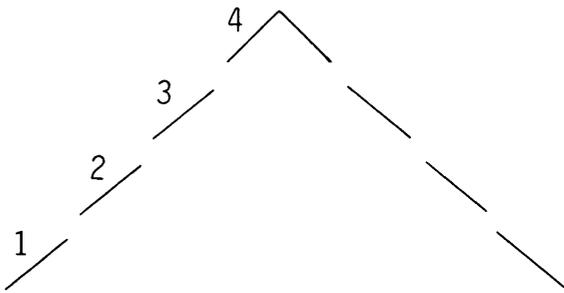
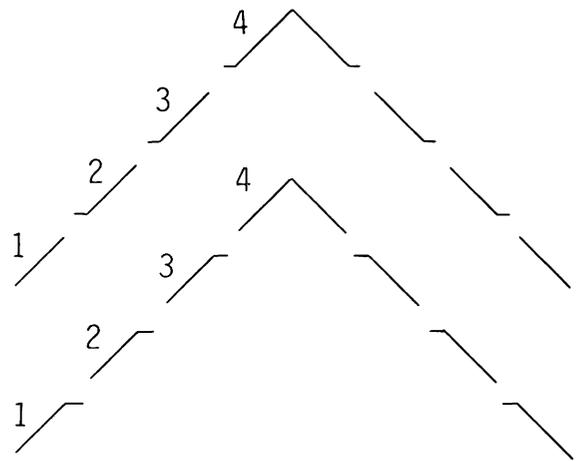

Figure 3 - Misaligned Gain
Figure 4 - Misaligned Offset
Discontinuities in the digital output signal will occur when misalignments of the Gain (Figure 3) and/or Offset (Figure 4) are present.
- a. Observe the waveform for separations similar to those illustrated in Figure 3 (Misaligned Gain) and/or Figure 4 (Misaligned Offset).